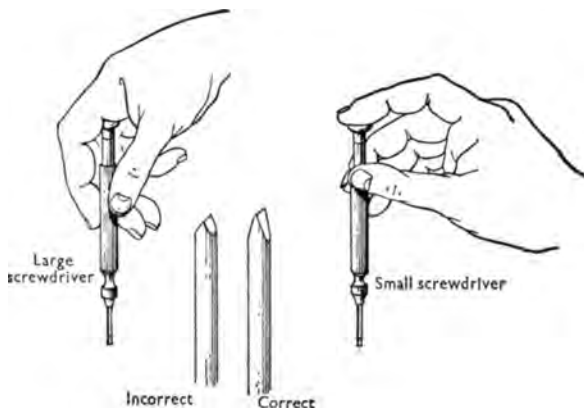

Fig. 4. Correct methods of holding watchmaker's screwdrivers; and (*centre*) screwdriver blade.
**Watch screwdrivers.** These are best purchased as a set of three or four in a box. The correct method of holding them is shown in figure 4.
With constant use screwdriver blades need re-shaping. This is done by using a smooth file. The blade of the screwdriver should be well blunted and the taper kept long (Fig. 4). If the taper is short and the blade end is sharp, the screwdriver will tend to rise out of the screwdriver slot and damage the screw head.